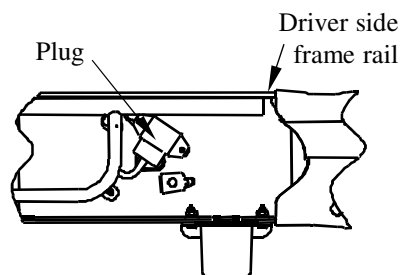
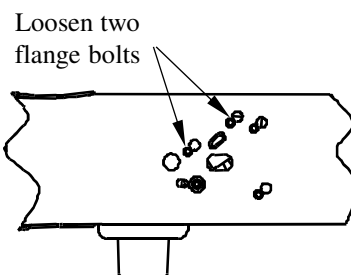

Figure 8a
Figure 8b
2. **2007 New Body Style and later trucks with OE Trailer Brake Control:** Relocate the electrical plug that is located on the inside of the driver's side frame over the rear wheel (Figure 8a). The plug may be removed from the frame by loosening the two bolts on the outside of the frame and pushing the bolt heads through the key hole slots, as shown in Figure 8b. Attach the plug to the angle bracket supplied with the mounting kit. The bracket will be attached to the inside of the frame with a 5/8" bolt at a later step.